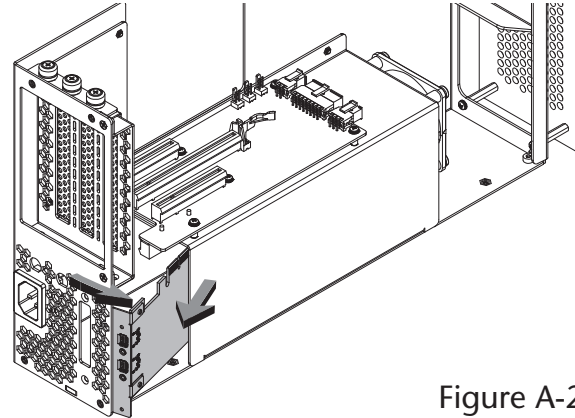

Figure A-2
3. Grasping the card by its edges, rotate the card out of the module, and then pull it out (**Figure A-2**). Set aside the Thunderbolt interface card on flat, level surface, component side down.